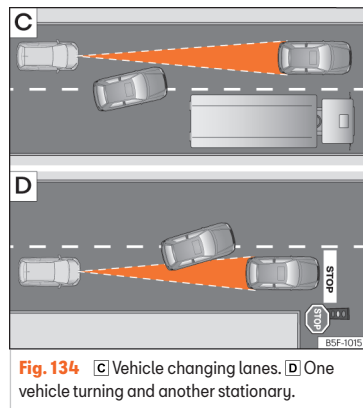

Fig. 134 [C] Vehicle changing lanes. [D] One vehicle turning and another stationary.
- Vehicles that move into your lane, a short distance from your vehicle »» Fig. 134 **C**.
The ACC may not react to stationary vehicles. If, for example, a vehicle detected by the ACC turns or moves over and there is a stationary vehicle in front of it, the ACC will not react to the second vehicle »» Fig. 134 **D**.